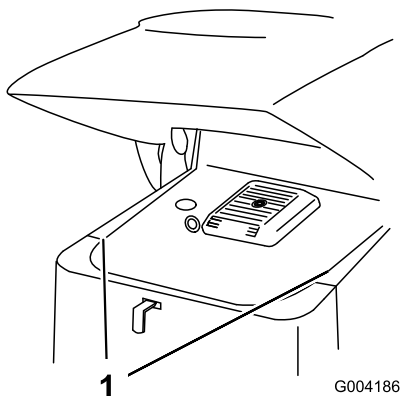

Figure 24
2. Slide the side screens (Figure 24) up and out of the slots in the front screen and frame.